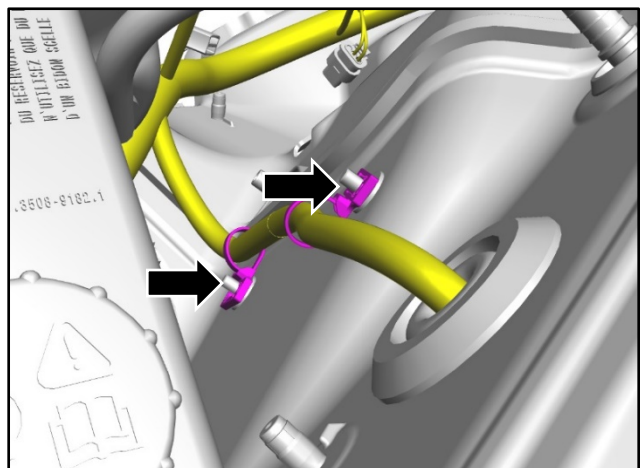

Figure 15
6. Install the wiring harness (refer to Figure 15).